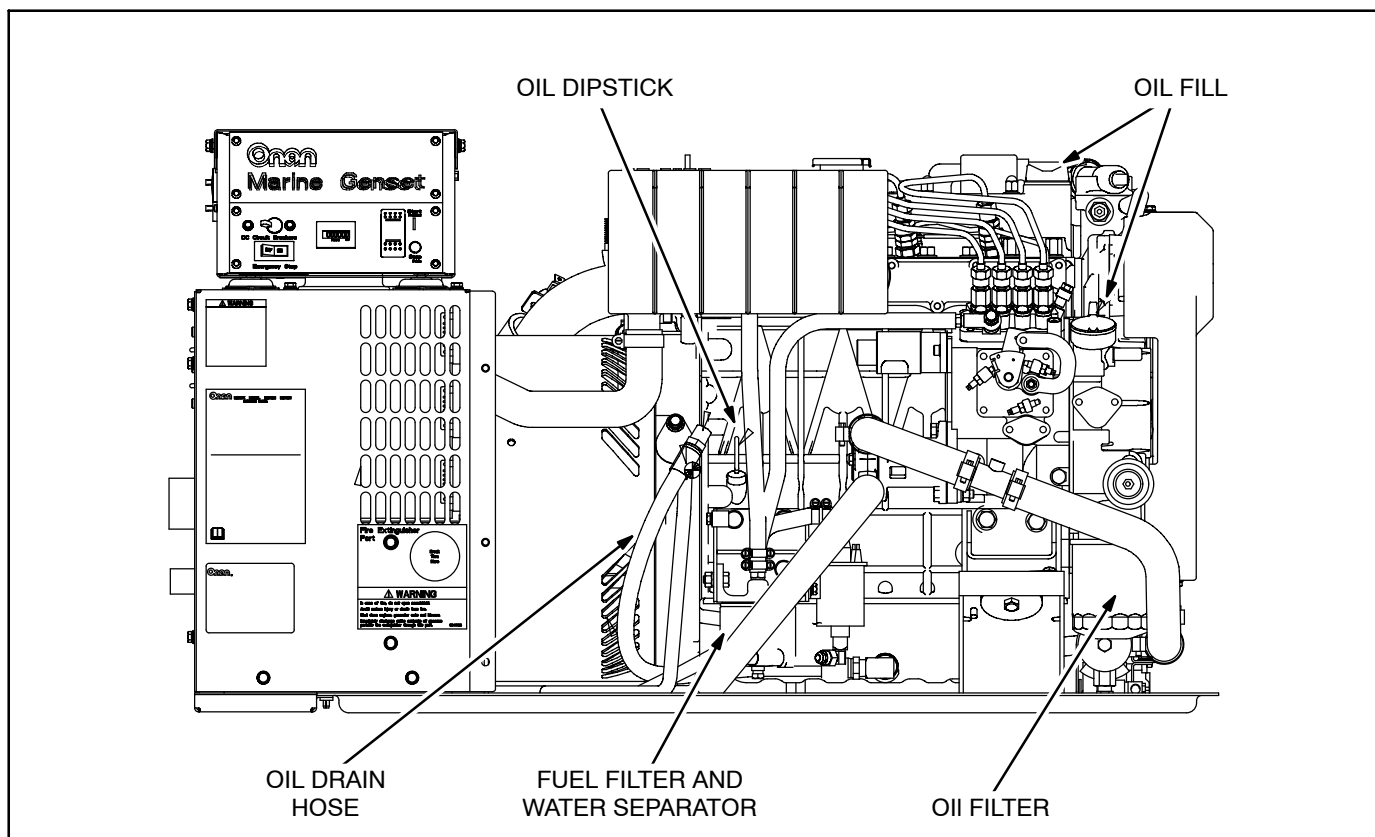

FIGURE 4-1. OIL AND FUEL SERVICE POINTS—MDKBB, MDKBL, MDKBM, MDKBN
Shut off the genset and check the oil level with the dip stick (Figure 4-1, 4-2 or 4-3). Add or drain oil as necessary. Add 1 quart (0.9 liters) when the level falls to the ADD mark. Drain oil if the level is above the full mark.
2. Be ready to drain the oil into a suitable container and then open the drain valve or unscrew the plug on the end of the drain hose (Figure 4-1, 4-2 or 4-3) and drain the oil into a suitable container. (Two wrenches are necessary to keep from twisting the hose when loosening and tightening the plug.) If an oil pump-out system is installed, follow the instructions provided.
Draining Water and Sediment: The genset may have a water-separator type of fuel filter (Figure 4-1, 4-2). Also check for up-stream water-separator type fuel filters. Drain water and sediment more often than scheduled (Table 4-1) if fuel quality is poor or condensation cannot be avoided. Dispose of the water, sediment and fuel drained off in accordance with local environmental regulations.
Replacing Fuel Filters: See Table 4-1 for scheduled fuel filter replacement. Replace fuel filters (Figure 4-1, 4-2 or 4-3) if the engine lacks power.